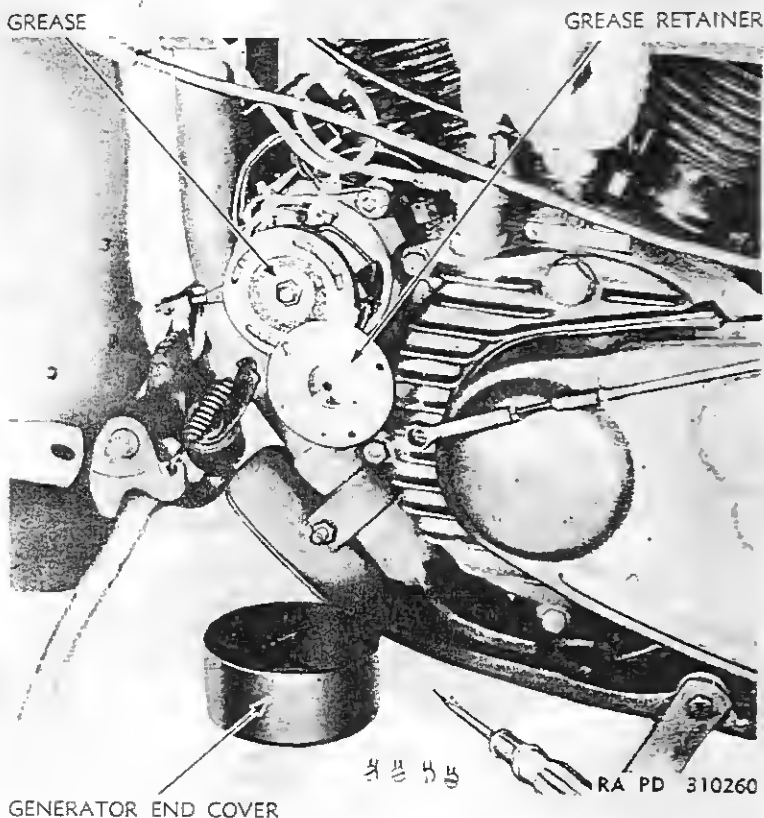
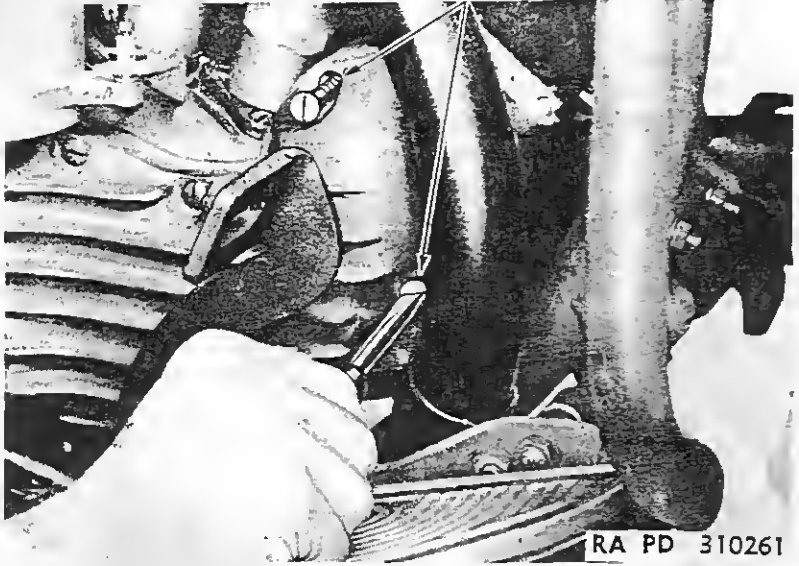

Figure 57—Generator End Cover and Grease Retainer Removed
Figure 58—Removing Generator End Mounting Screws
GENERATING SYSTEM**92. ARMATURE BEARING SPECIAL LUBRICATION (fig. 57).**
(1) Remove left footboard, sidebar, and clutch pedal assembly, following procedure outlined in paragraph 102 a (1) to (6).
(2) Remove the two end cover screws and pull end cover off generator.
(3) Remove two of the three screws which secure the outer grease retainer plate to end of generator (fig. 57).
(4) Loosen the other grease retainer plate screw slightly to permit shifting plate to one side.
(5) Pack ball bearing with general purpose grease No. 2, pressing lubricant into bearing with finger.
(6) Shift the outer grease retainer plate back into position. Install the two screws removed, and securely tighten all three screws.
(7) Install generator end cover and the two retaining screws.
(8) Install left footboard, sidebar, and clutch foot pedal assembly, following procedure outlined in paragraph 102 b.
93. REMOVE GENERATOR (figs. 58 and 59).
(1) Disconnect wires from the two generator terminals marked SWITCH and RELAY.
(2) Remove the two long screws, through timing gear case cover, that secure end of generator against gear case (fig. 58).